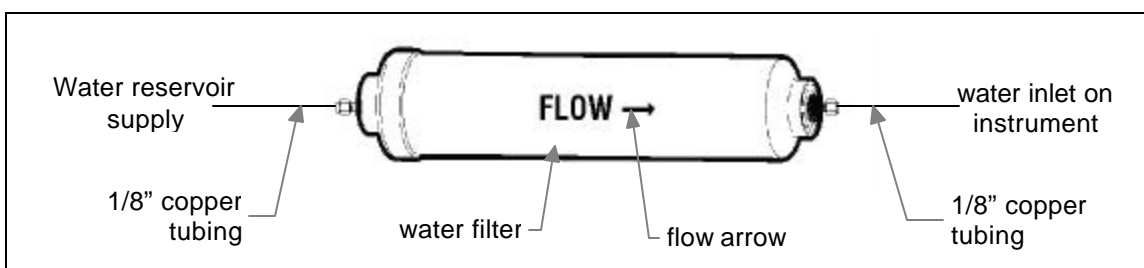

Figure 2-3: Connecting the Rinse Water Filter
**Note:** Locate the flow arrow (Figure 2-3) on the water filter. This arrow must point away from the water supply line.